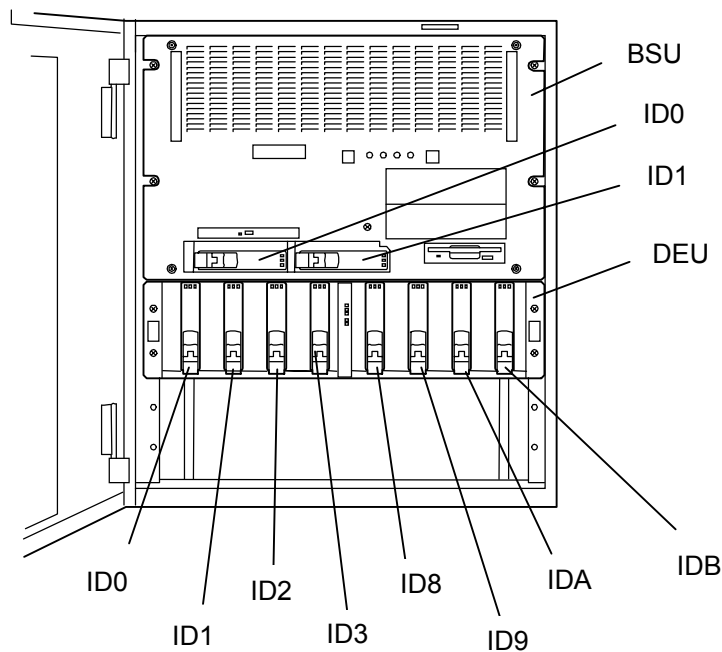

Figure 4-58. Hard Disk Drive Bays
- 4.** Determine which hard disk drive bay contains the hard drive you want to remove, see Figure 4-58.